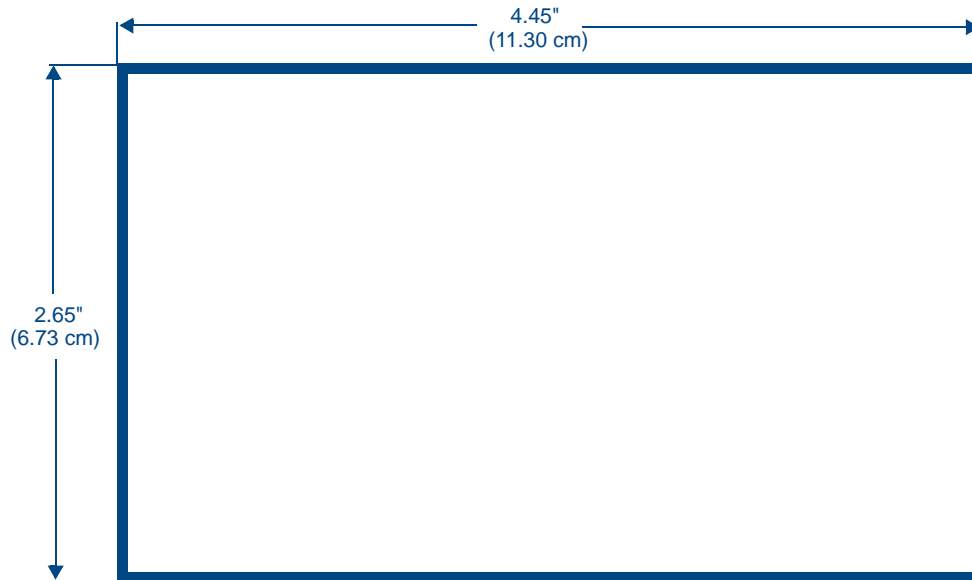

FIG. 9 MSD-431-L Installation Template
2. For best results, use the MSD-431-L Installation Template (**68-2265-01**) to ensure proper placement (FIG. 9). The template is marked to ensure that the touch panel and back box are properly aligned.